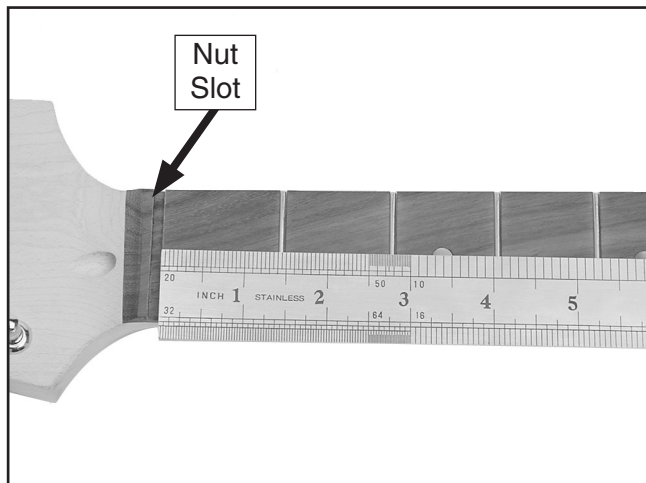
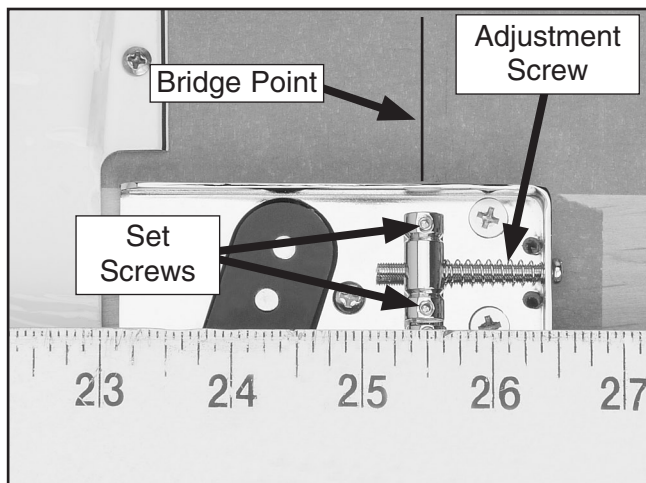

Figure 13. Measuring $25\frac{1}{2}$ " from nut along center line.
Figure 14. Bridge point and high E saddle adjustment screw.
9. Using the long straightedge, measure $25\frac{1}{2}$ " from the fretboard side of the nut slot (**Figure 13**) along the center line to the bridge point (**Figure 14**), and mark this location on the guitar.
10. Using a Phillips head screwdriver, turn the lower saddle adjustment screw so the set screws shown in **Figure 14** are centered over the bridge point.